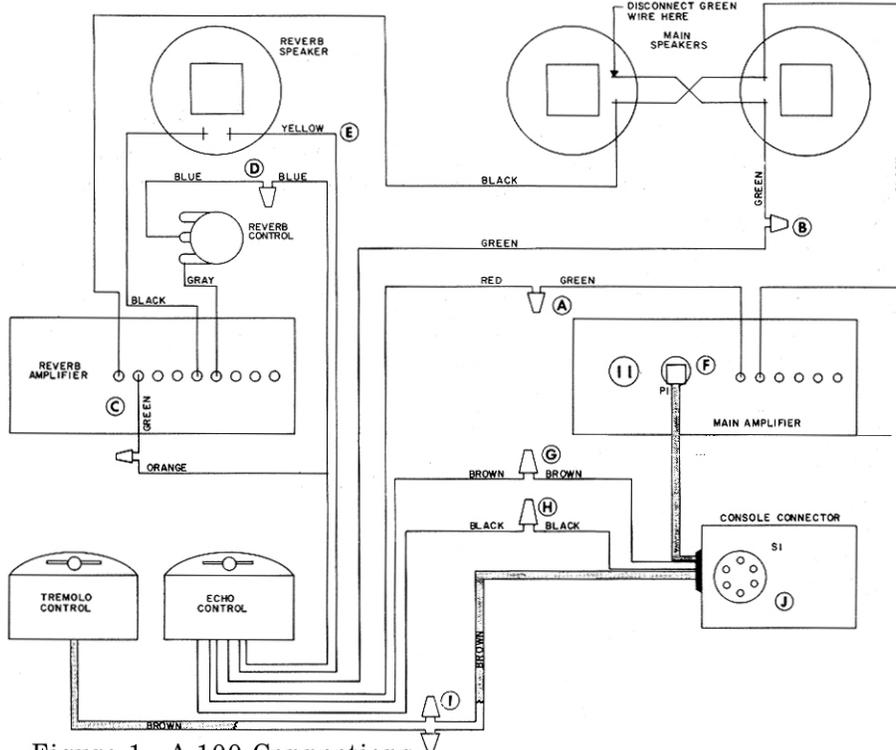

Figure 1 A 100 Connections
5. Cut the green lead which connects the amplifier output to the main speakers. (A & B on figures 1 & 2) Remove 3/8" of insulation from each of the cut ends. Connect the amplifier end of this lead to the red lead from the echo control with a wire nut. Connect the speaker end of the lead to the green lead from the echo control. (B on figures 1 & 2)
6. Disconnect the reverberation input lead (green) from the main speakers. Strip and connect it to the orange lead from the echo control with the wire nut provided. (C on figures 1 & 2)
7. Detach the "hot" lead (gray or blue) from the reverberation speaker terminal, strip it about 3/8", and connect it to the blue lead from the echo control with the wire nut provided.(D on figures 1 & 2)
8. Solder the yellow echo control lead to the "hot" reverberation speaker terminal. (E on figures 1 & 2)
9. **A100:** Connect the plug from the console connector into the 5-contact socket on the rear apron of the power amplifier chassis. (F on figure 1)
10. Connect the brown lead from the echo control to the short, single, brown lead\* from the console connector, with the wire nut provided. (G on figures 1 & 2)
11. Connect the black lead from the echo control to the black lead from the console connector, with the wire nut provided.(H on figures 1 & 2)
12. Connect the brown double wire from the tremolo control to the short, double, brown wire from the console connector, with the wire nuts provided. (I on figures 1 & 2)
8. Connect the brown lead from the echo control to the brown lead from the console connector with the wire nut provided. (G on figures 1 & 2)
9. Connect the black lead from the echo control to the black lead from the console connector with the wire nut provided. (H on figures 1 & 2)
10. Connect the brown wire from the tremolo control to the short wires on the console connector with the wire nuts provided. (I on figures 1 & 2)